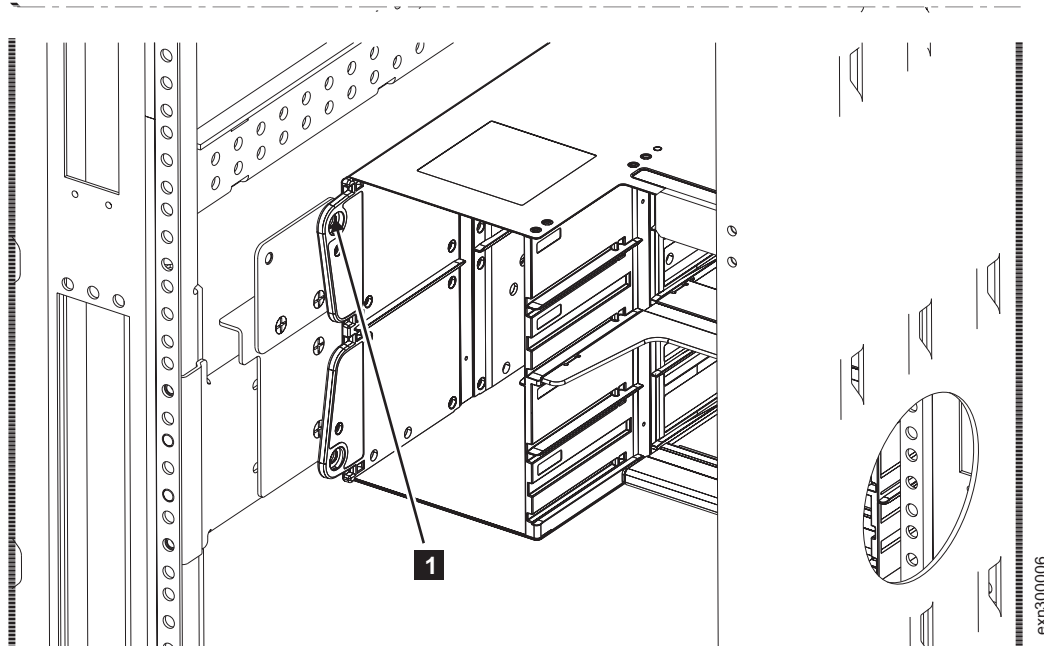

Figure 7. Attaching the chassis to the tie-down plate
4. From the rear of the rack, use a silver pan head M5 screw **1** to attach the rear of the chassis to the tie-down plate on each rail, as shown in Figure 7 on page 5.